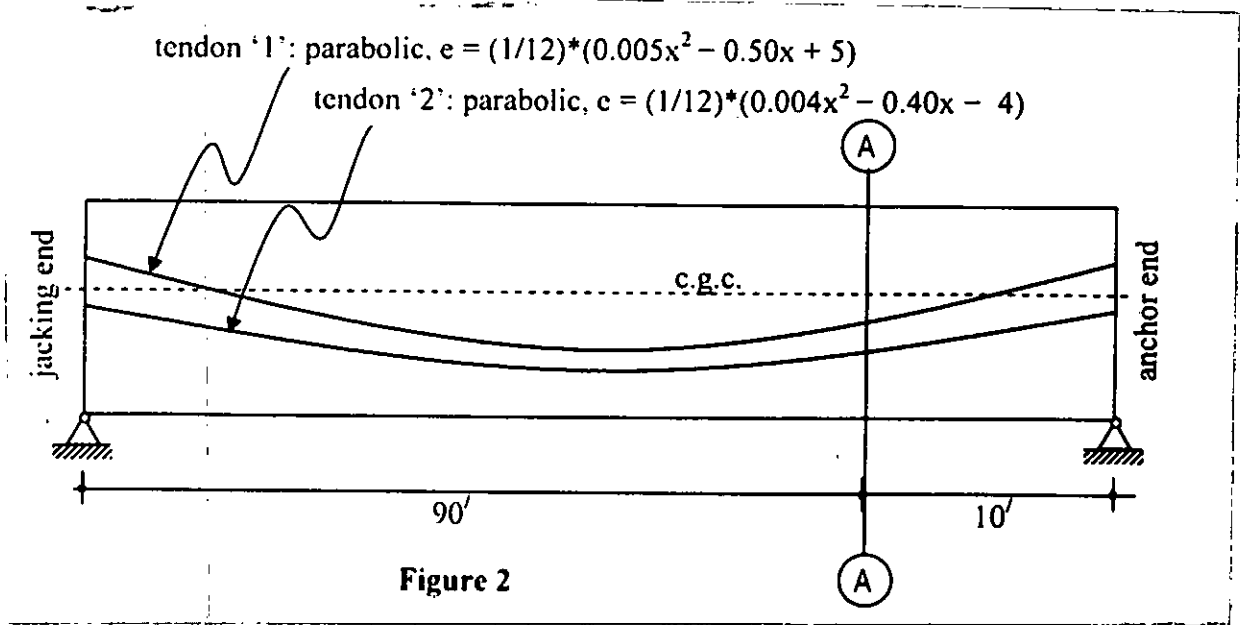

Figure 2
(c) Compute frictional loss of the post-tensioned beam having two parabolic tendons (as shown in Figure 2) at location A-A. Given: jacking stress = 190 ksi, μ (friction co-efficient) = 0.15 and k = (Wobble co-efficient) = 0.00015/foot.
2. Analyze the plane grid in figure 2 using Stiffness Method. Also determine the vertical reaction bending moments at support A. Assume, $EI=4000 \text{ k-ft}^2$ and $GJ= 1500 \text{ k-ft}^2$. (26 $\frac{1}{4}$)